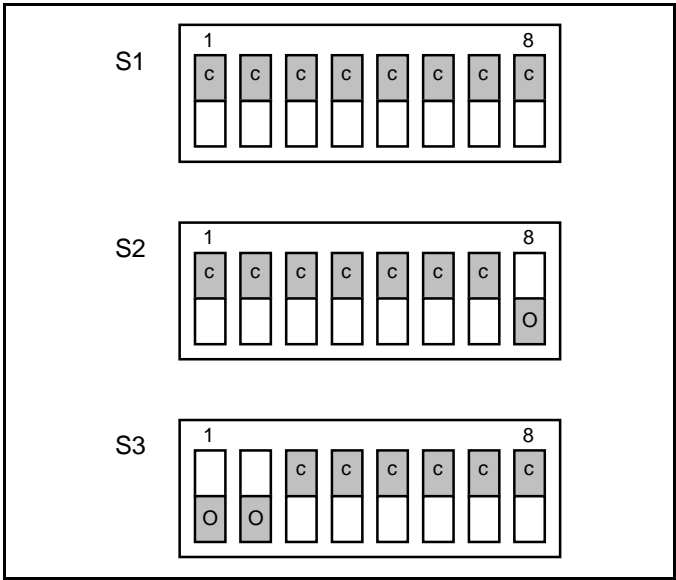

Figure 10 - Test Mode 9600 Baud, Pseudo Random Data
2. Record the position of the GETC dip switches and then reset the switches to the positions shown in Figure 10. Reset the GETC.